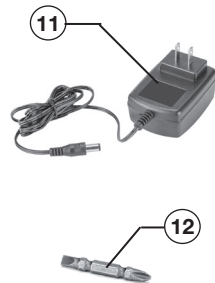

FIG 1
Your tool has a built-in LED work light (6-FIG 1) to illuminate the work area. When you turn on the tool, the work light will automatically turn on.
- Set the clutch ring (3-FIG 1) to settings from 1 (lightest) to 22 (heaviest). Drill mode (III) is direct drive (torque is not limited) and used primarily for drilling operations.